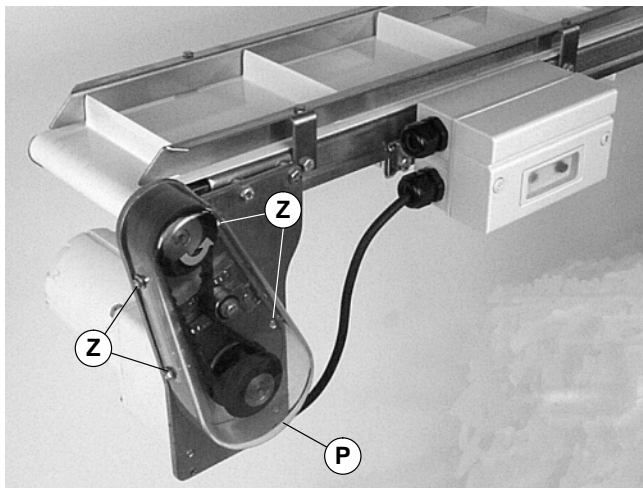

Figure 13
1. Loosen four (4) screws (Z of Figure 13) and remove cover (P).
NOTE: Do not over-tighten screws (Z of Figure 13).
6. Replace cover (P of Figure 13) and tighten four (4) screws (Z) to 4 Nm.